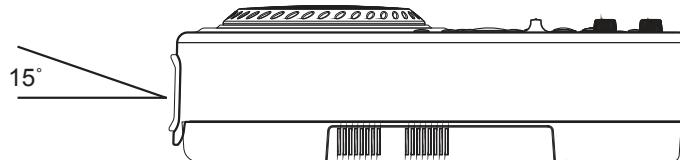

Figure 1
- The player will work normally when the main unit is mounted with the front panel within 15 degrees of the vertical plane If the unit is tilted excessively, discs may not be loaded or unloaded properly. (**Figure 1**)